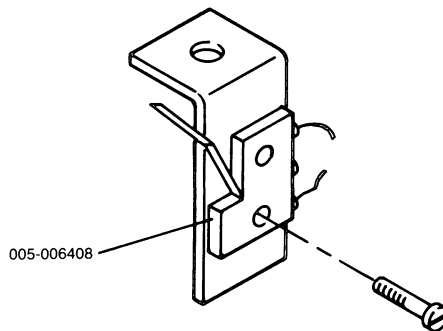

Figure 5.31 Out of Forms Switch Replacement
2. Remove the two screws securing the switch to its mount and remove the switch (see Figure 5.31).